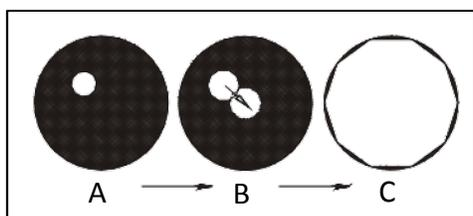

Fig. 20
Adjust the center adjustment screws ④ and move the specimen to the center of the field of view (Fig. 20).
Adjusting the Field Iris Diaphragm – (Fig. 20, C)